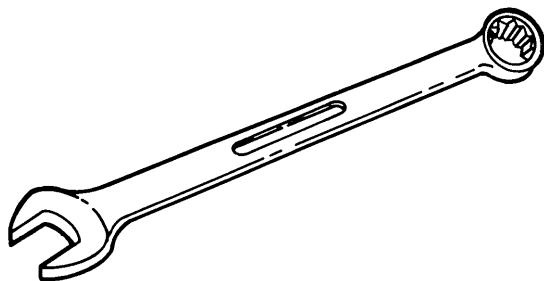

Figure 4-24. Combination Wrench
(3) Combination wrenches. The combination wrench shown in figure 4-24 combines the best features of the open-end and box wrench into a single wrench. The size opening on the wrench is the same on both ends, but one end has a box head and the other end has an open-end head. The length of the wrench varies with the size of the head. The box-end opening is offset from the shank by 15 degrees.